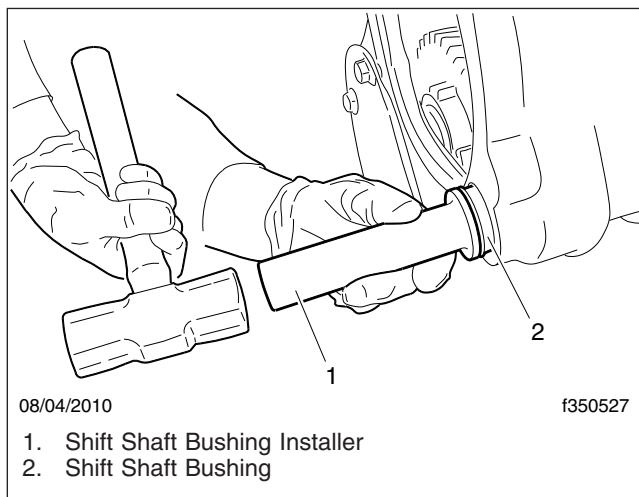

Fig. 6, Installing the Bushing
20. If the brass shift shaft bushing was removed, install a new one using a mallet and the Shift Shaft Bushing Installer. See Fig. 6.